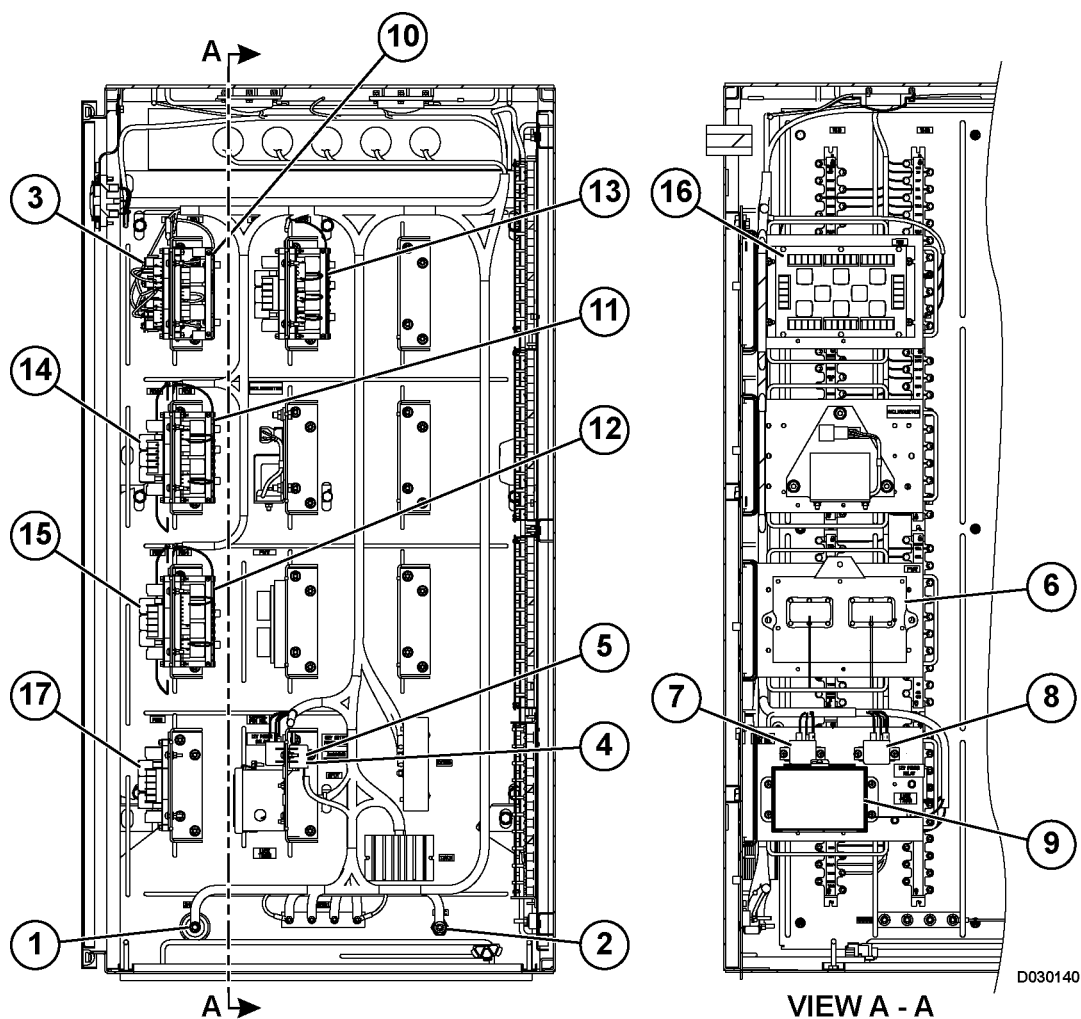

FIGURE 3-1. AUXILIARY CONTROL CABINET - LEFT WALL
24VDC terminal (1, Figure 3-1) and 12VDC terminal (2) are mounted on the left wall of the cabinet. These terminals distribute battery voltage and 12VDC for devices requiring reduced voltage. The 24VDC terminal is a convenient test point for measuring battery voltage during troubleshooting procedures.
Diode board (16, Figure 3-1) contains 24 replaceable diodes that are mounted on a plug-in connector for easy replacement. Some of the diodes are used in the coil circuit of various relays to suppress the resultant coil voltage spike when power is removed from the circuit, preventing damage to other circuit components (lamp filaments, etc.). Other diodes are used to control the flow of current in a circuit as required. Resistors or diodes may also be installed in sockets P7 through P12.
Refer to Figure 3-1 for the location of each relay board. Refer to the Circuit Breakers chart at the end of this section for electrical circuit identification numbers.